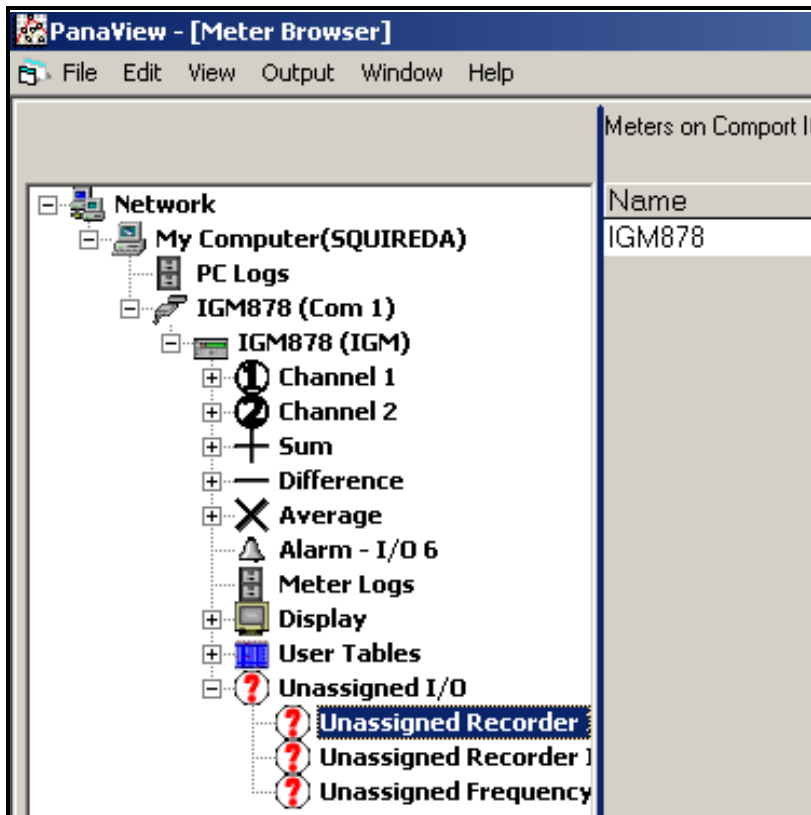

Figure 18: *PanaView™* Meter Browser Menu
With *PanaView™* installed on your computer (see the *PanaView™ Graphical Interface User's Manual*), you can enter and record meter information in a number of different ways. The Meter Browser Menu is illustrated in Figure 18 below.
2. To enter values for Channel 1, click on the + sign before each level to open it (see Figure 18 on page 21).